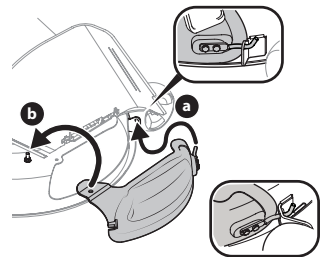

Figure 4
- To install the mulch plug, pivot the discharge chute upward. Refer to Figure 4: